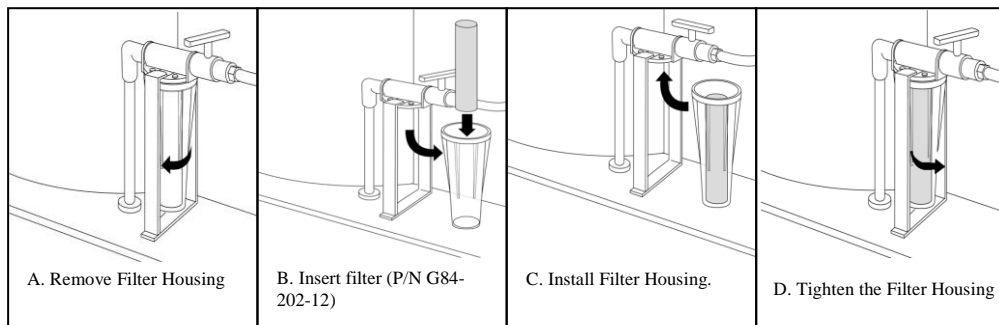

Figure 3
11. Remove Filter Housing and empty all water from the Filter Housing. Install new filter and tighten Filter Housing into place (Figure 3).